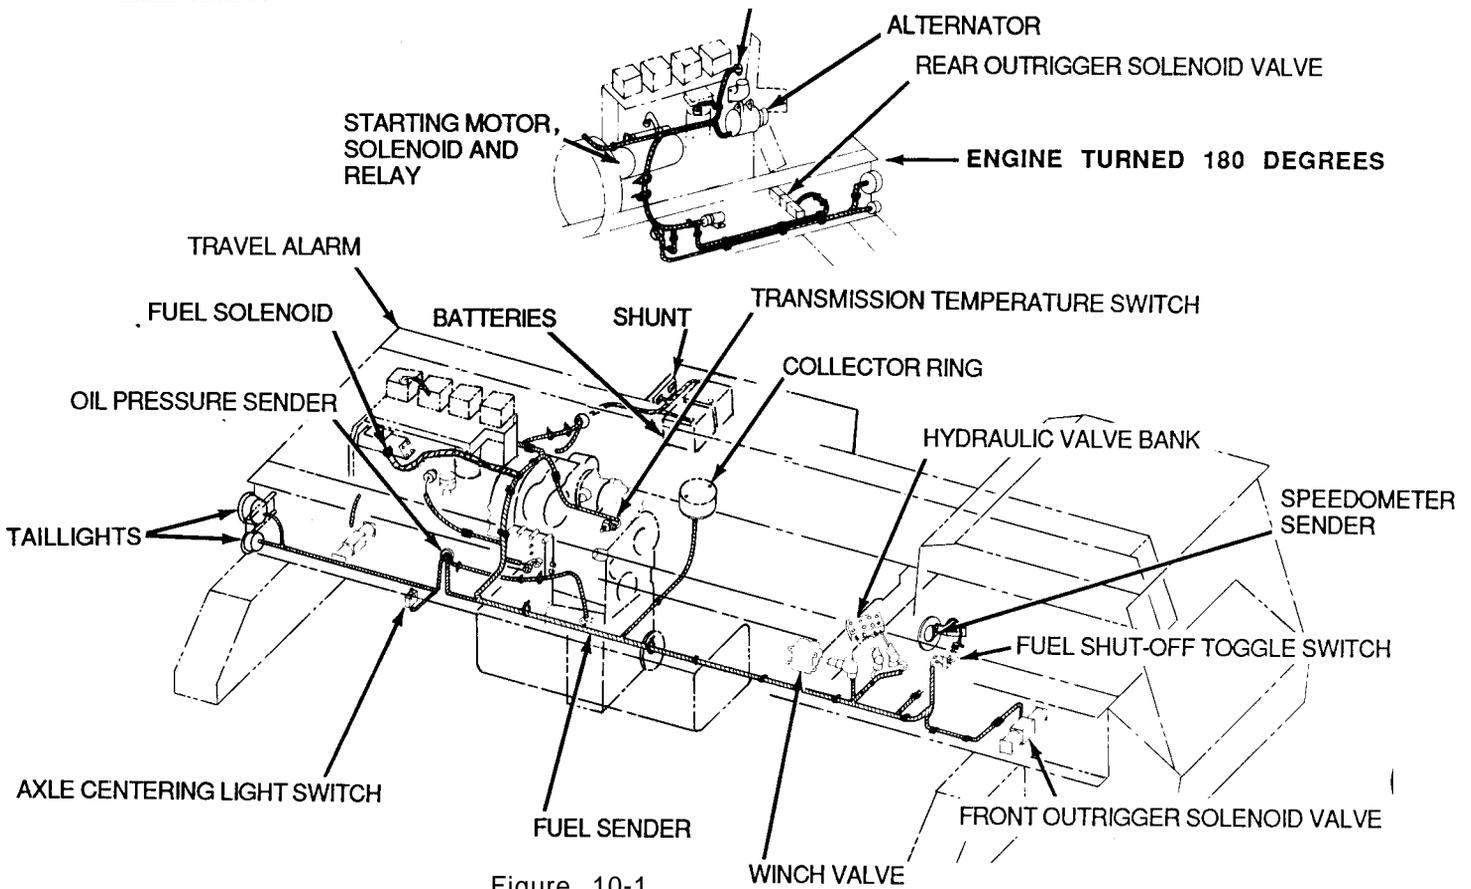

Figure 10-1
2. Disconnect main engine wiring harness (Figure 10-1) from hydraulic valve bank, winch valve, fuel shut-off toggle switch, front outrigger solenoid valve, collector ring, fuel sender, transmission temperature sender, axle centering light switch, oil pressure sender, travel alarm, rear outrigger solenoid valve, water temperature sender, oil pressure sender, alternator, starting motor solenoid, starting motor relay, speedometer sender, taillights, fuel solenoid and turn signals.